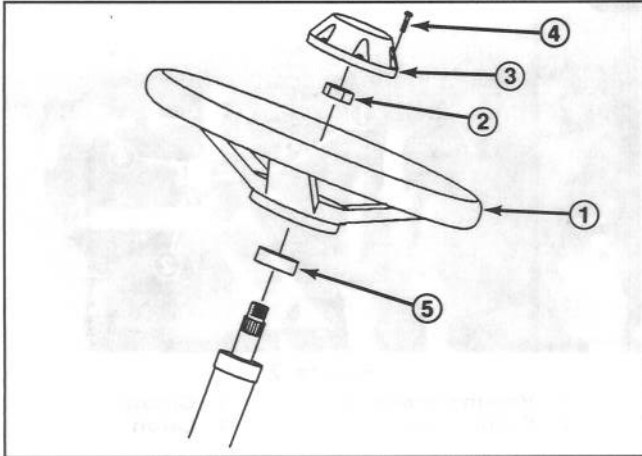

Figure 4
2. Remove jam nut from steering shaft. Slide foam seal and steering wheel onto steering shaft. (Fig. 4).
3. Secure steering wheel to shaft with jam nut (Fig. 4) and tighten it to 10-15 ft-lb.